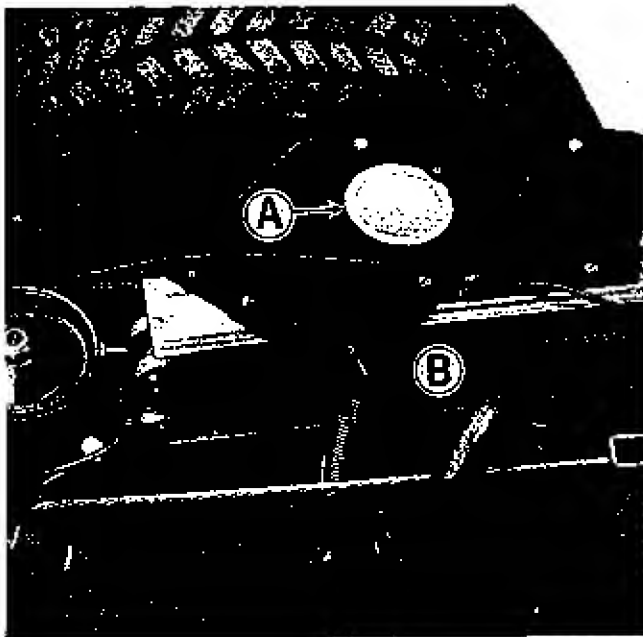

Figure 20. Transmission oil cooler, located under seat deck.
CLEAN TRANSMISSION OIL COOLER: See figure 20. Use a screw driver to remove plug (A). Inspect the oil cooler (B) and if necessary remove any dirt, chaff or oil, which may decrease the efficiency of the cooler. Dirt and chaff collected on the outside of the cooler can usually be brushed off after the engine has been stopped. Be careful not to bend the cooler fins. If grass, chaff, or dirt collect between the fins, it may be necessary to use air or water pressure to blow it out. A non-flammable solvent should be used to remove any oil which may collect on the outside of the cooler. In warm or dusty operating conditions, or when mowing dry grass, the cooler may need to be cleaned more often to prevent foreign material from restricting air flow through it.